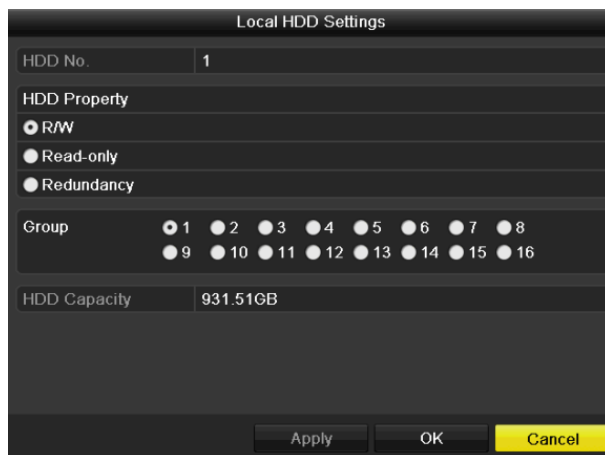

Figure 10.17 Set HDD Property
2. Select HDD from the list and click the  icon to enter the Local HDD Settings interface, as shown in Figure 10.17.